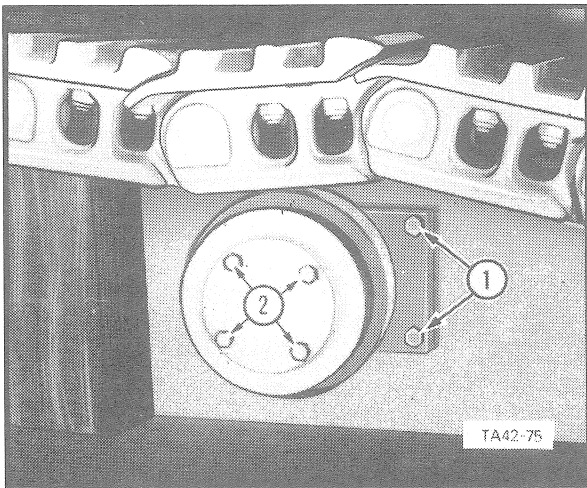

Fig. 17
- (b) Raise the top section of the track chain so that it is clear of the track idler and block in this position as shown in Fig. 17.